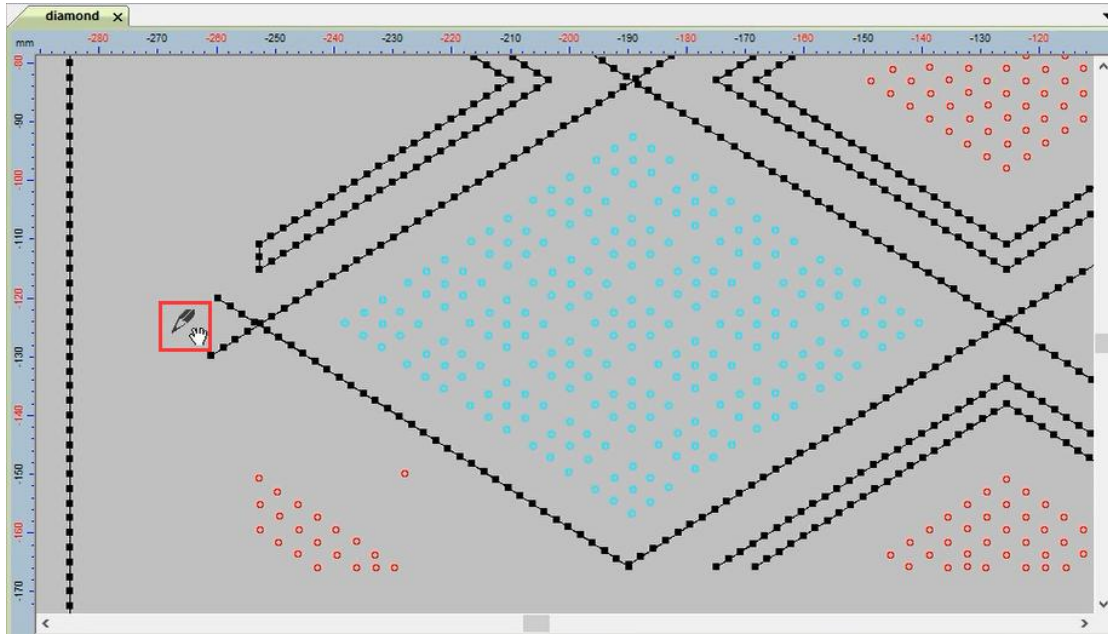

图 1 Picture1
出现图 1 的标识后，点击鼠标右键切换复制个数如图 2。
Step 4: After selecting, click the smart pen tool, and hold down "Shift and the right mouse button" at the same time in the blank space of the workspace, as shown in Figure 1.
After the logo in Figure 1 appears, click the right mouse button to switch the number of copies as shown in Figure 2.